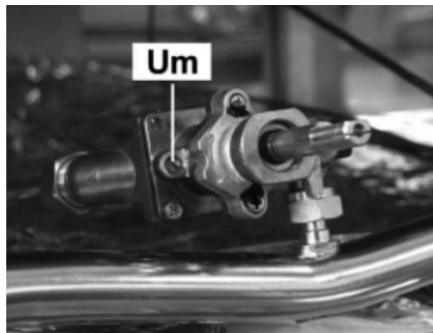

Fig. 2
4. Remove main burner's nozzle UM (Fig. 2), and exchange it with a nozzle provided in Table 2 (part of the delivery).
5. Re-tighten main burner's nozzle UM (Fig. 2).